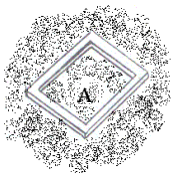

Figure 1
2. Assemble Bottom and Shelf turntable set: put bottom (E) on a soft surface. Make sure the side has screw marks face up. Put the Turner (P) on top of it. Align them with screw marks and secure with 1/2" large head screws. Then, put Turntable (O) on a soft surface. Make sure the side has screw marks face up. Put bottom (E) on the top of it with assembled turner face down. Use the hole on the bottom panel to find the screw marks and secure with 1/2" large head screws. Now the Bottom w/ Turntable set is ready. Use the same procedure for building the Shelf w/Turntable set.
3. Assemble Door set: put two doors set one soft surface and align them from the screw marks. Then secure with 1/2" screws (N)
4. Put the face frame (A) face down on a flat soft working surface (Figure 1).